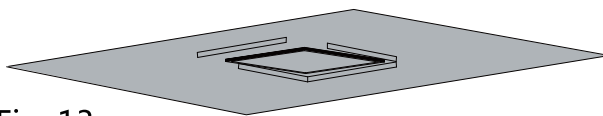

Fig. 13
3. Slide the luminaire into the mounting bracket(Fig. 13), and reattach the end bracket. (Fig. 14)